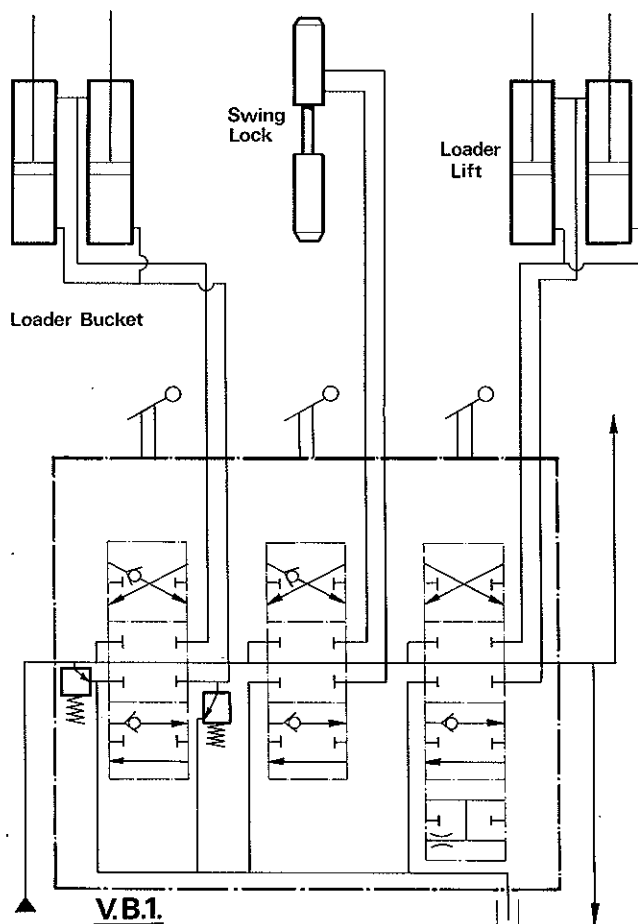

Fig. 2
5. Control of the front loader is by means of the directional control valve VB1 (fig. 2).
13. Control of the offset swing lock is by means of the direction control valve VB1 (fig. 2).